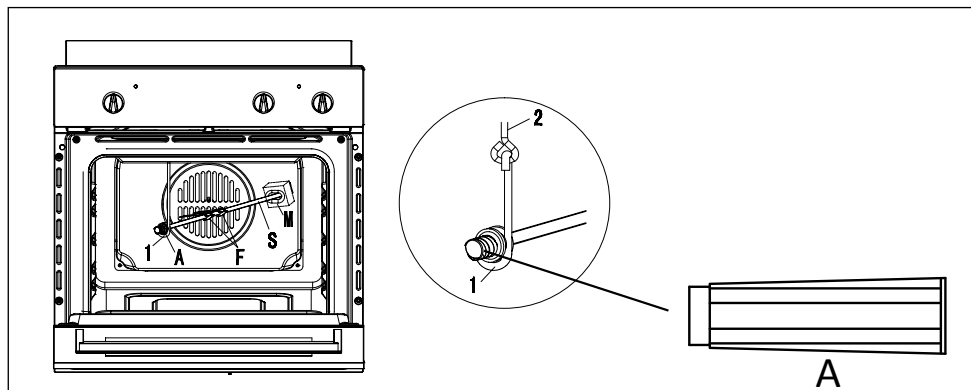

Fig 6
- › Position the spit support as shown in (fig. 6)